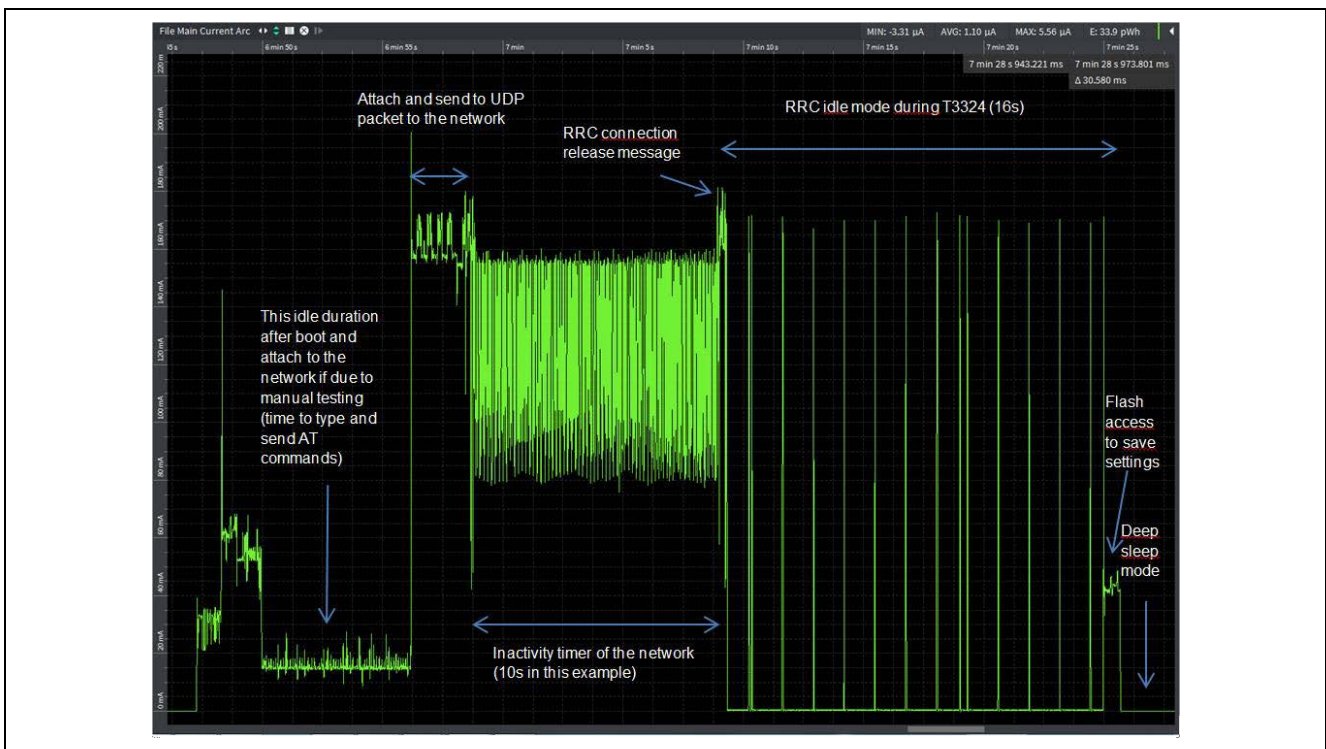

Figure 9. UDP Traffic Power Graph
- Figure 9 shows the power graph that you should get: